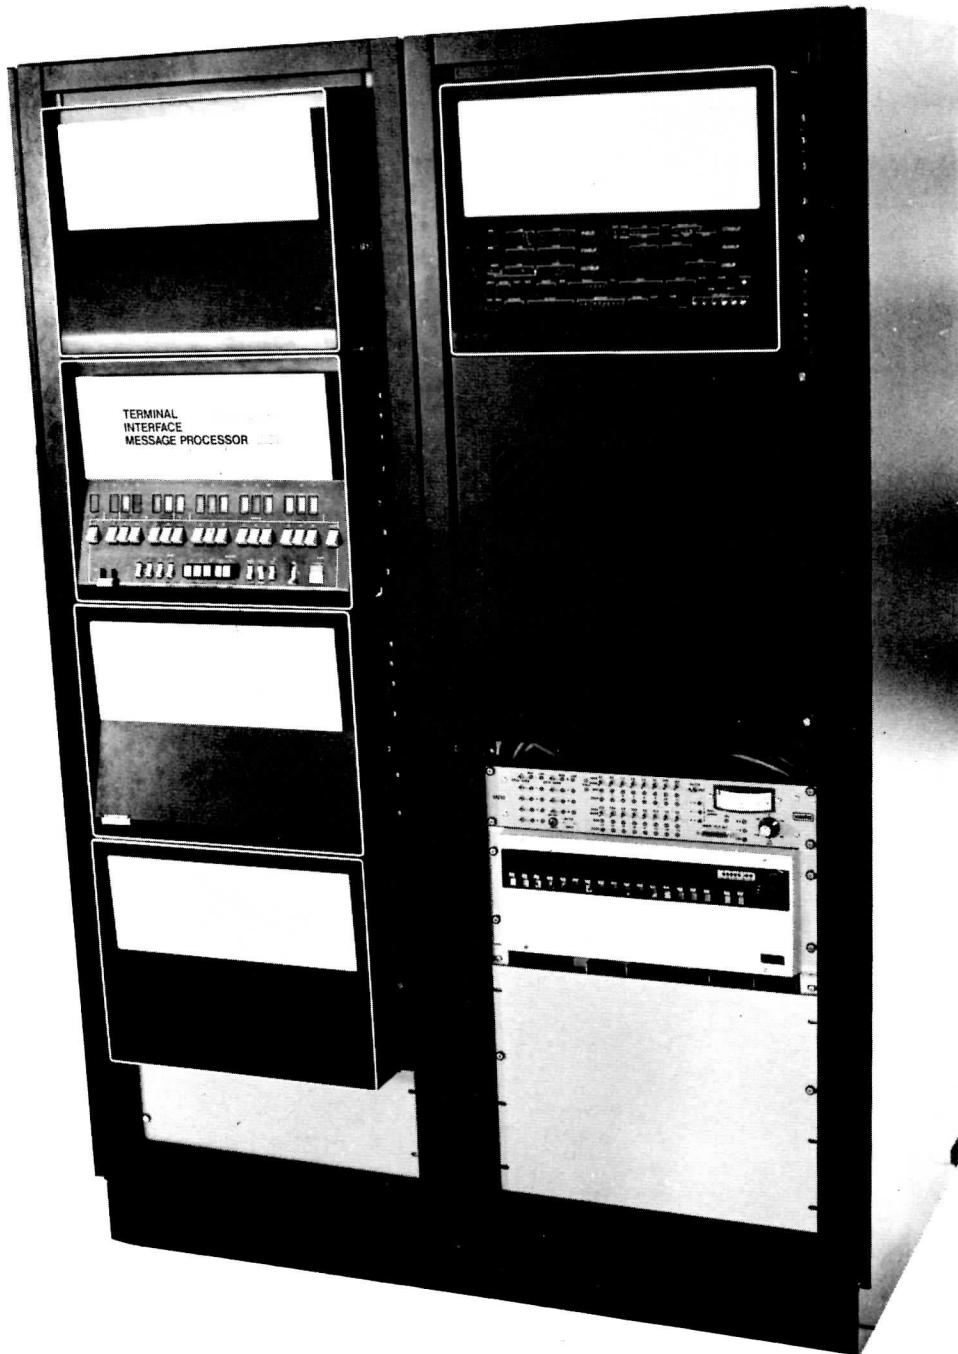

Figure 3. Terminal IMP
- The TIP, H316 with certain options, as described below (see Figure 3).